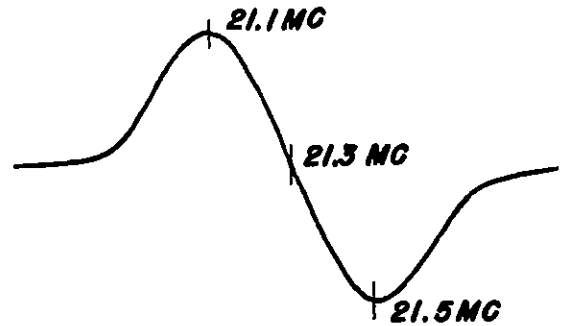

Fig. 41 Output From Discriminator
1. Connect the oscilloscope point "A" to chassis (full discriminator load.) Connect output #1 to point "C" and chassis (limiter grid.) Adjust the Mega-Sweep coarse frequency and sweep amplitude controls for a sizeable pattern, (See fig. 41) on the scope. Set the Mega-Marker to 21.3 Mc. Always use as little marker amplitude and R. F. input as necessary to obtain a satisfactory indication on the scope. Adjust L6 and L7 to obtain a symmetrical discriminator response curve with the 21.3 Mc marker falling at the center reference line. The peak to peak discriminator width should be approximately 450 Kc.